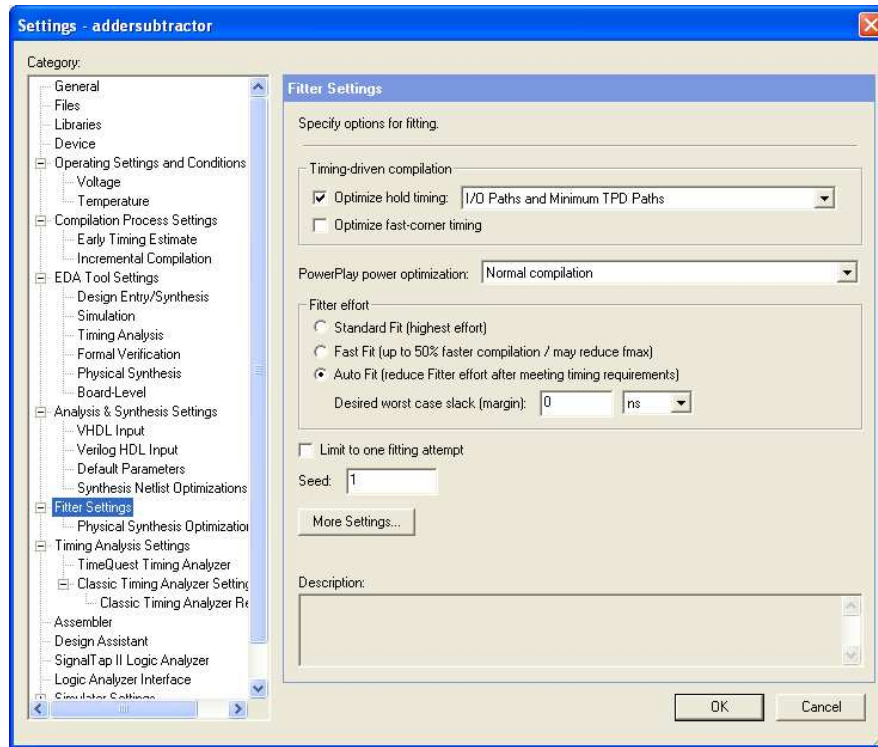

Figure 35: Fitter settings.
3. Click **Assignments > Settings** and then select the category **Fitter Settings** which opens the window in Figure 35. Three different levels of effort can be given. Choose the **Auto Fit** option, which instructs the Fitter to stop as soon as it finds an adequate implementation. The **Fast Fit** option reduces the compilation time, but it may produce a lower f_{max} . The third option, called **Standard Fit**, forces the Fitter to produce the best implementation it can find; at this effort level the Fitter will exceed the user's timing requirements as much as it can, which often results in longer compilation time. Click **OK**, and recompile the circuit.